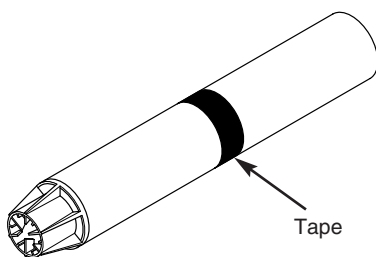

Fig. 27a
7. Tape the outer duct sections together with the tape provided ensuring a good seal is made (Fig. 27a).